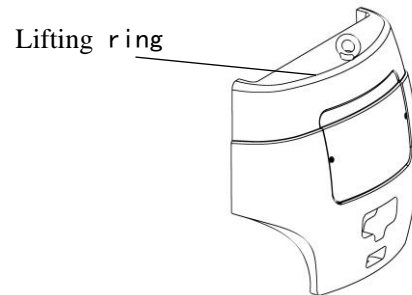

Figure 2-24
(3) Figure 2-24 shows the balanced lifting